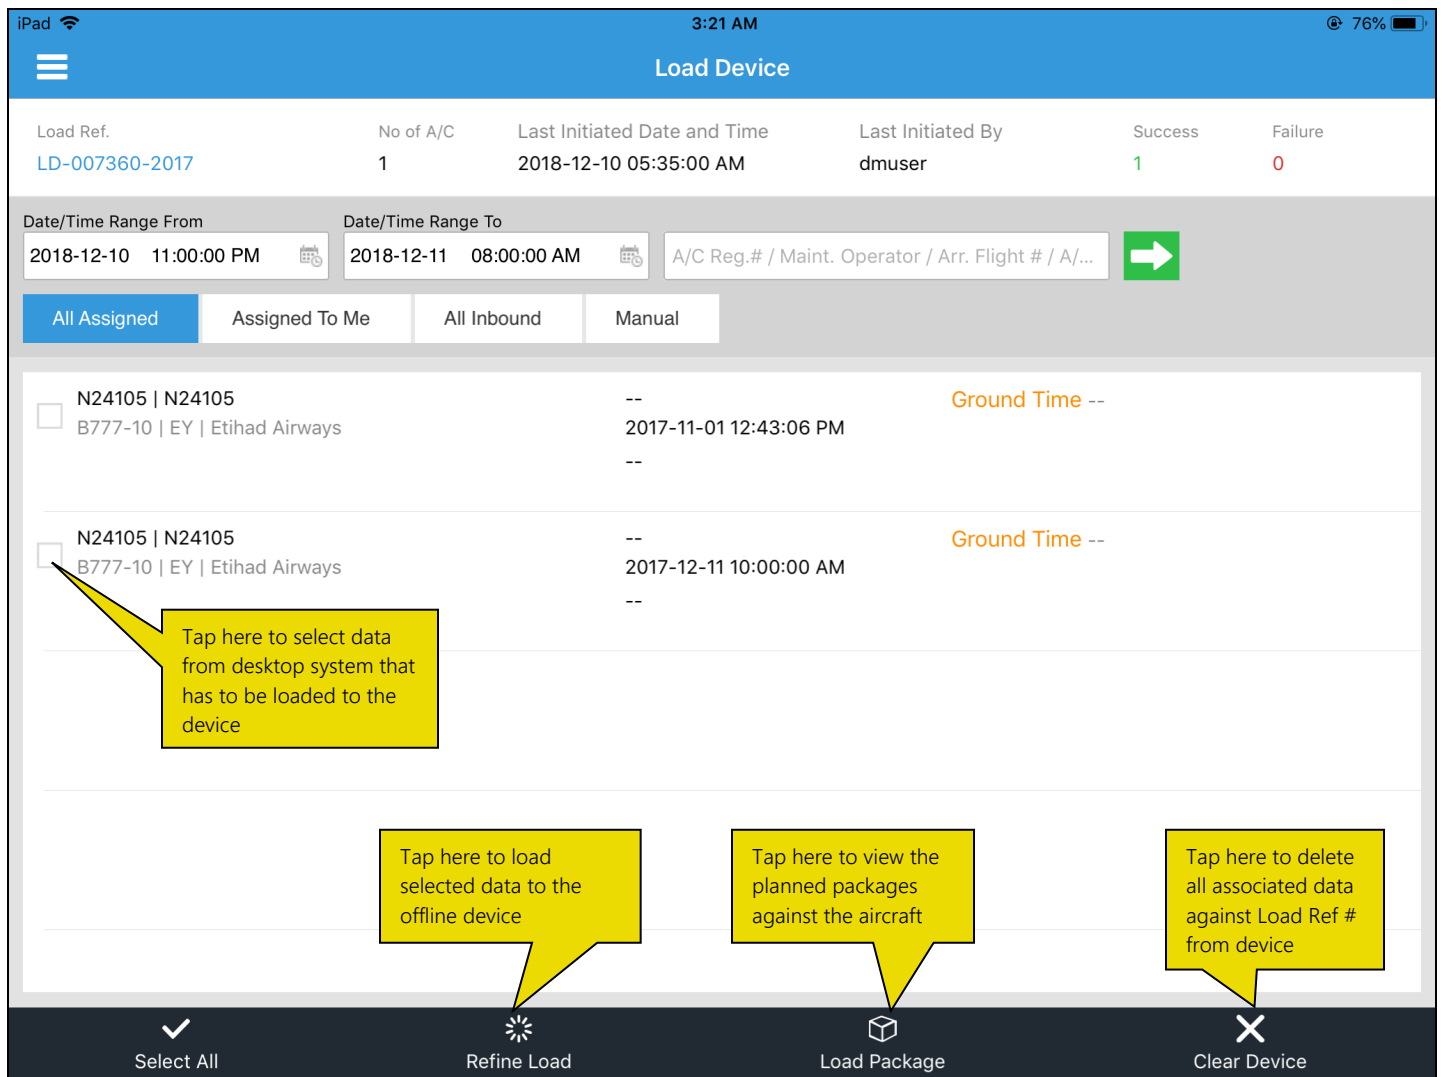

Figure 4.6: The Load Device screen
4. The **Load Device** page categorizes and displays the retrieved records in specific tiles. See Figure 4.6.